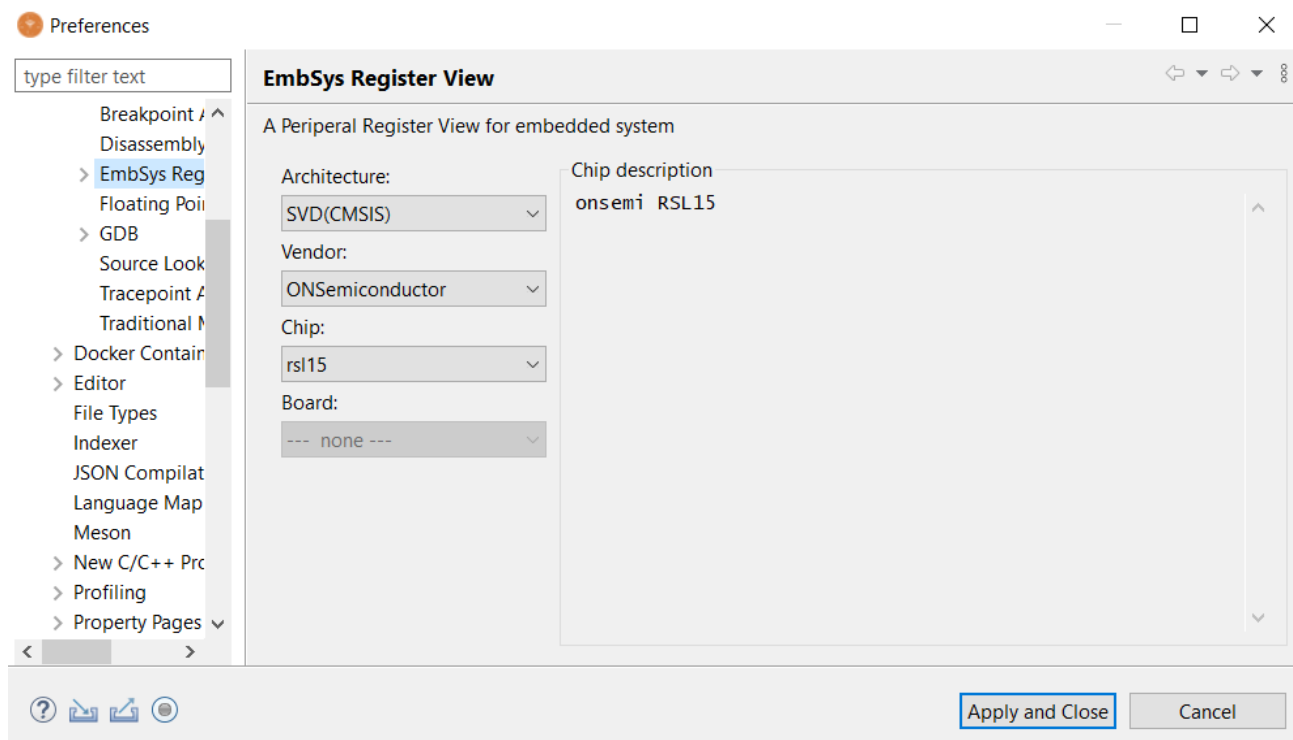

Figure 18. Setting up the EmbSys Register View Plugin
4. In the drop-down menus for the following fields, make these selections, as shown in the "Setting up the EmbSys Register View Plugin" figure (Figure 18):